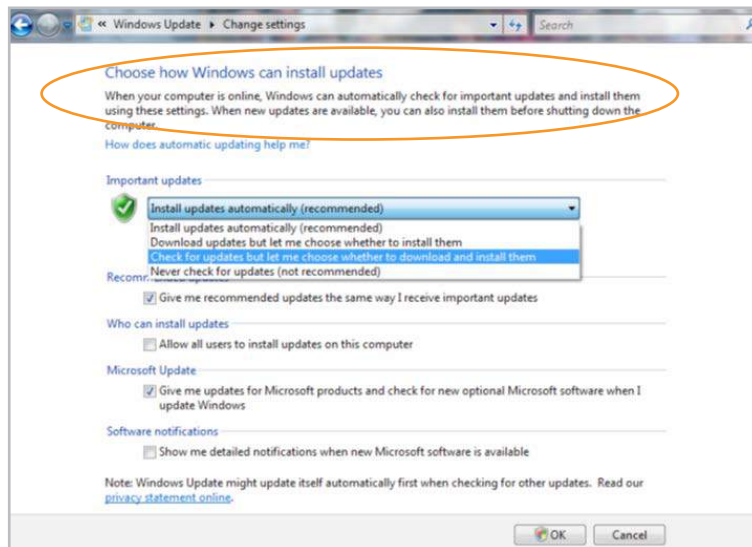

Figure 251 Select Let me choose whether to download and install updates
3. Using the drop down menu, select **Let me chose whether to download and install updates**. This will prevent Windows from automatically changing the FTP settings (Figure 251).